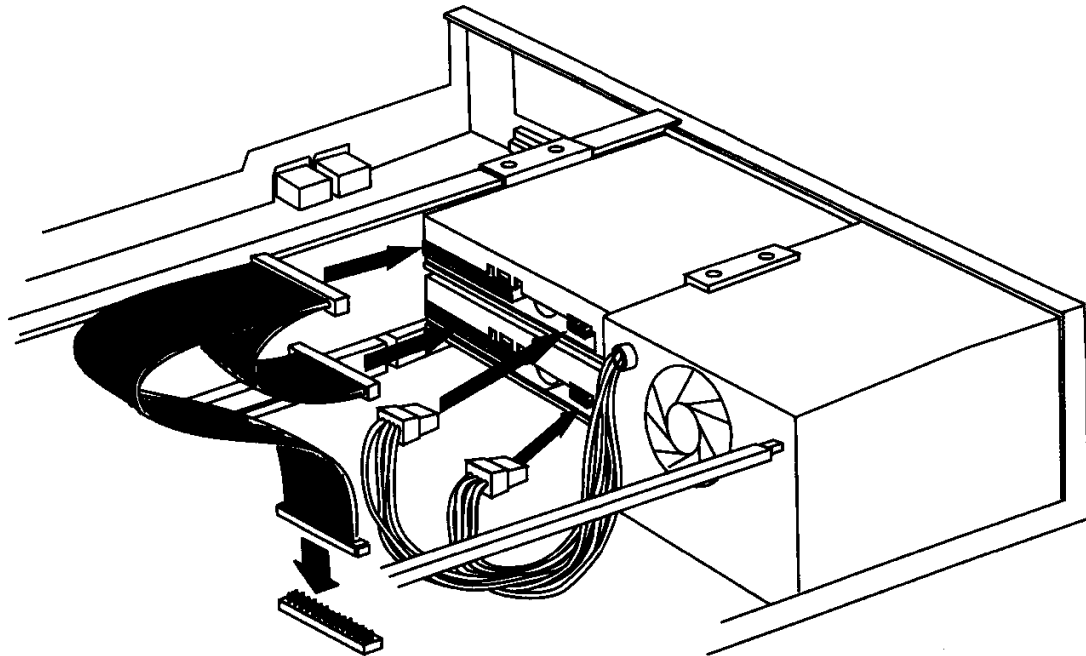

Figure 6-3. Rear drive bay ribbon and power cable connections
3. Disconnect the power and ribbon cables from the existing drive(s) in the rear area (see Figure 6-3). Note the connections before you disconnect a drive so that you can replace them when you are done.